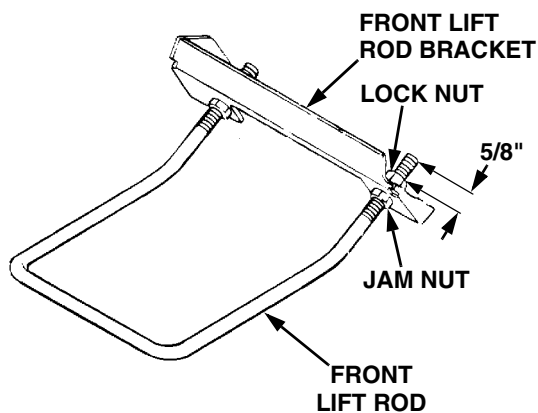

Figure 53
2. If making the initial installation of the deck, adjust the front lift rod to allow 5/8 inch of thread to protrude beyond both lock nuts of the front lift rod/bracket assembly (See Figure 53).
6. To adjust the downward tilt of the blades, adjustment of the front lift rod is required. Refer to Figure 53 and proceed as follows: